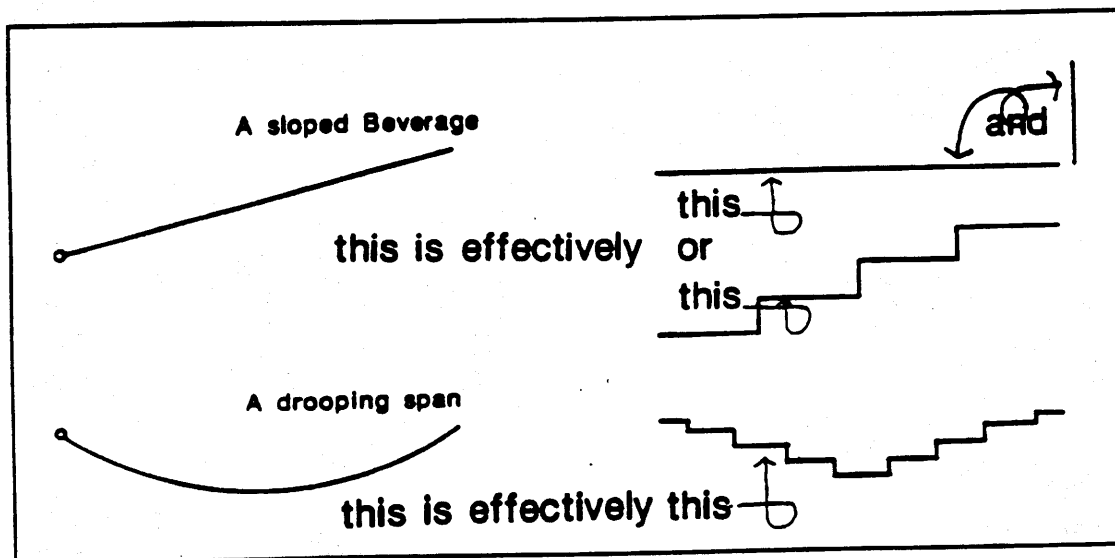

FIGURE 2.
(1) Current builds up best when the signal travelling along the wire keeps pace with the wave-front travelling in space. Any wiggle in the wire causes it to lag behind, because it has further to go on the wire while it travels straight in space. This is the main disadvantage of wiggle, as it also limits the length of wire usable before the signal on the wire begins to antiphase itself. As long as the wire keeps going in a constant average direction, the wiggles do not have much direct effect on the directivity;
(2) Any sag in the spans between supports not only makes the wire physically longer, it also introduces an effective vertical element. A sloping wire can be represented as two separate and shorter wires, one vertical and the other horizontal (see Figure 2). In the case of the antenna we are considering, any effectively vertical element will pick up signals from all directions, filling in nulls in the pattern. The most serious case would be strong local broadcasting stations off to the side, as they use vertical polarization,